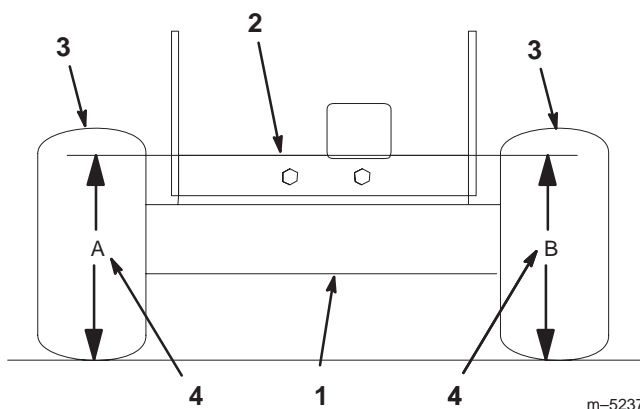

Figure 46
- Measure engine deck height at location **A** (Fig. 46).
- Measure engine deck height at location **B** (Fig. 46).